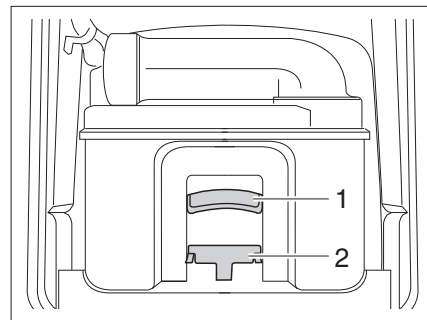

Fig. 164 Thetford cassette
- Pull the retaining clip (Bild 164,2) forward to unlock the toilet cassette and pull out the cassette at the handle (Bild 164,1).